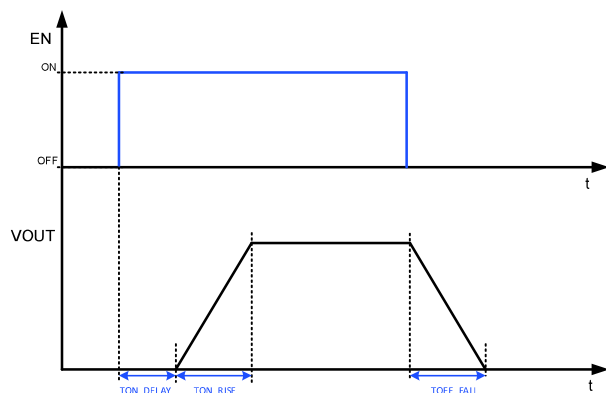

Figure 6 Soft Start and Shutdown
The soft start (SS) time can be programmed through PMBus. The default SS time is 2ms. Figure 6 shows the timing parameters that can be programmed through PMBus interface during the start-up and shutdown.